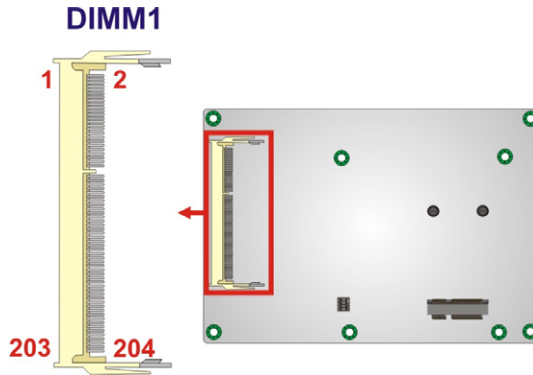

Figure 3-21: SO-DIMM Connector Location
- CN Location:** See **Figure 3-21**